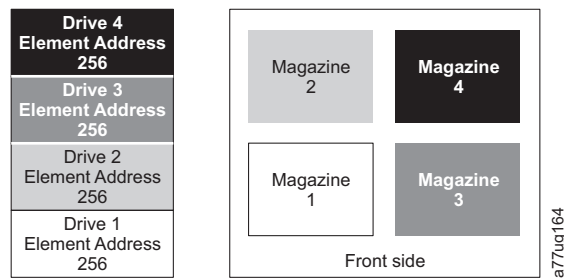

Figure 17. Configuration of a four - partition system
- Logical Library 1: Slot1 through 23 4096 (0x1000) through 4118 (0x1016) as shown in Figure 17 on page 31
When configured with four logical partitions, the Element Address assignments are as follows: DTE assignments are shown in Figure 17.